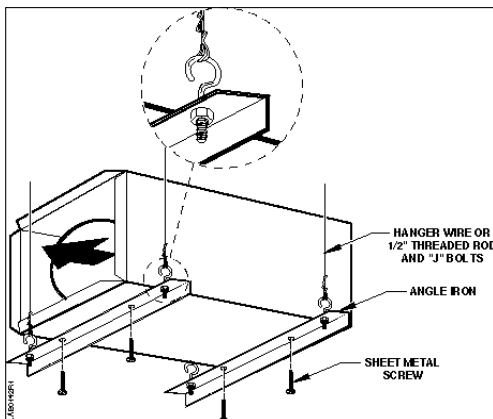
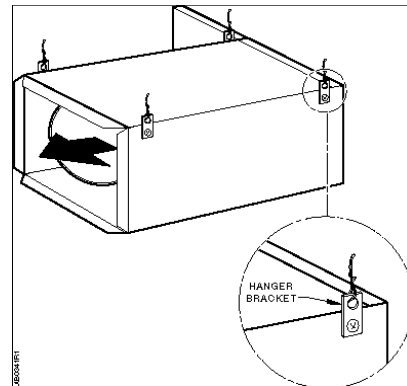

Figure 7. Angle Iron Installation.
Figure 8. Hanger Bracket Installation.
2. **For angle iron hangers.** Cut two pieces of angle iron 4 inches wider than the terminal (Figure 7) and mount the angle iron to the bottom of the terminal using sheet metal screws. Mount the angle iron so that it does not interfere with internal parts or the access panel.
4. **For hanger brackets.** Mount the four hanger brackets to the top of the terminal using sheet metal screws (Figure 8) so they do not interfere with internal parts or the access panel.
5. **For hanger wire.** Using hanger wire suspended from the building's bar joist or from mounting anchors properly secured to the building's structure with lugs or poured-in-place hangers, secure the unit and level it in each direction (Figure 7 and Figure 8). Percussion nails are not adequate anchors.
6. **For threaded rod.** Using threaded rod suspended from the building's bar joist or from mounting anchors properly secured to the building's structure with lugs or poured-in-place hangers, secure the terminal and level it in each direction (See Figure 7 and Figure 8). Percussion nails are not adequate anchors.